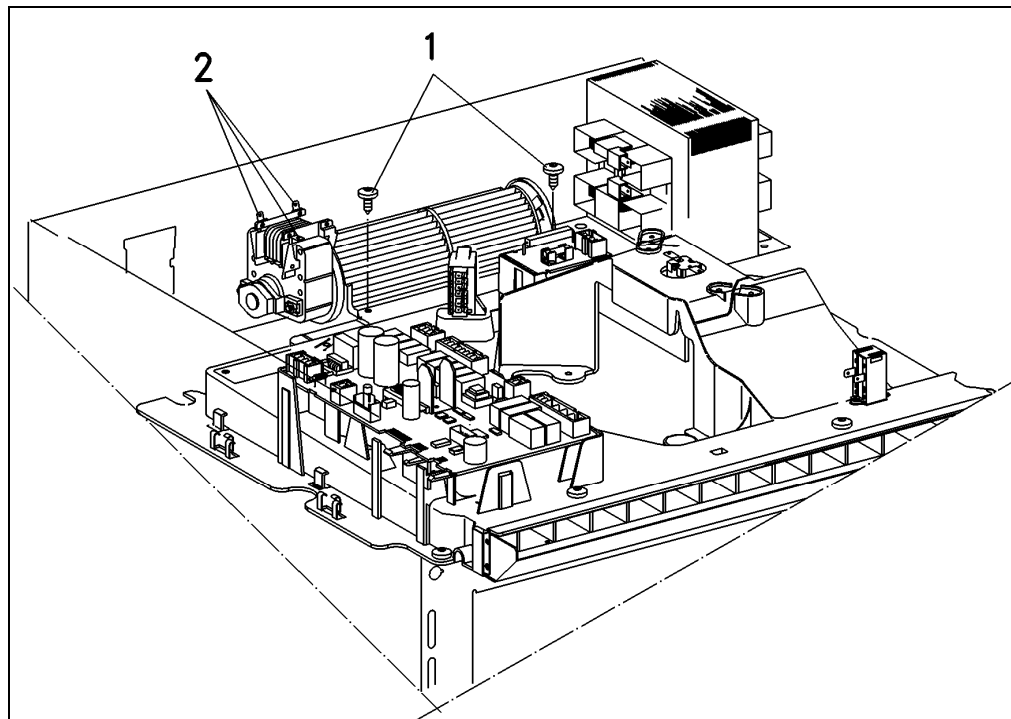

Figure 012-9: Cooling Fan Removal
3. Remove the screws securing the cooling fan (Figure 012-9, Item 1).
4. Disconnect the cooling fan connections (Figure 012-9, Item 2).